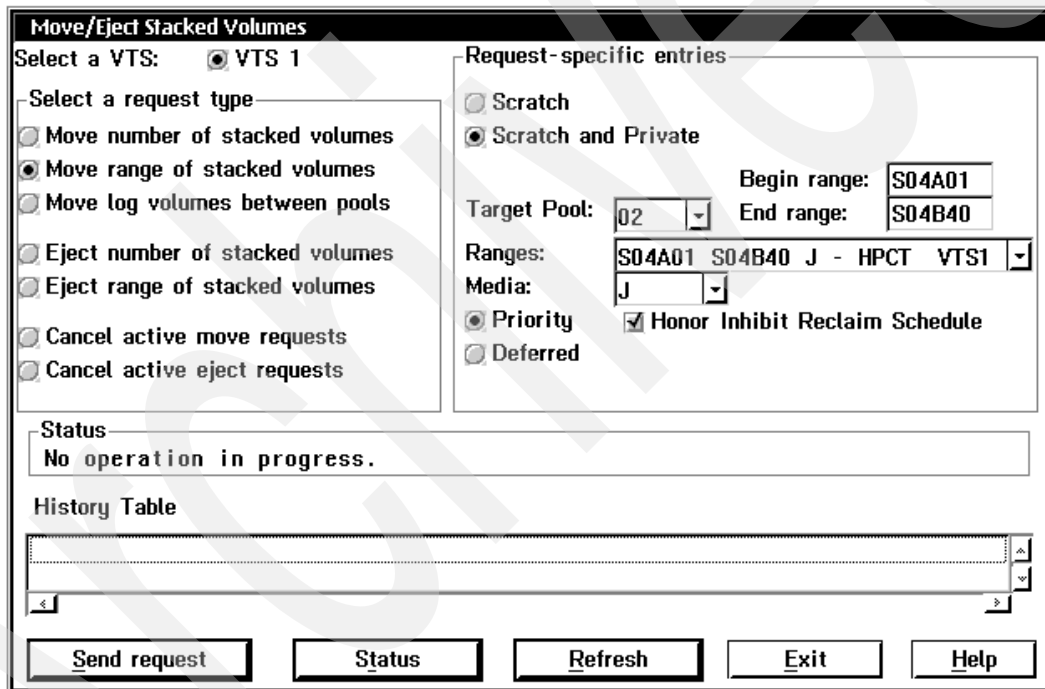

Figure 6-16 Move Stacked Volumes window
The Move/Eject Stacked Volumes window (Figure 6-16) allows you to move and eject stacked volumes. The following actions can be performed:
3. Click **Move/Eject Stacked Volumes**. The window shown in Figure 6-16 will be displayed.